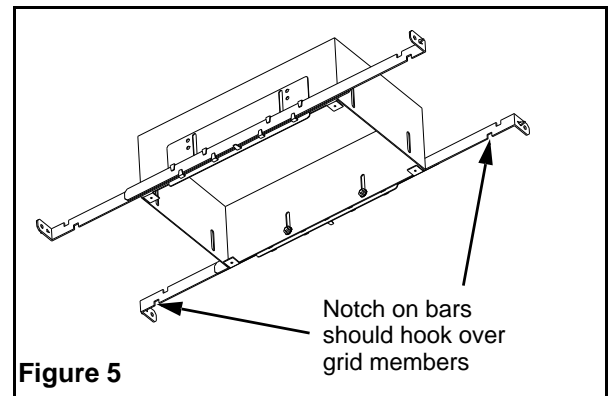

Figure 5
- d. Align the open surface of box where the finished surface of sheet rock will be and tighten nuts and studs (see fig. 5).
- c. Slide hanger bars through the tabs in the adjustment brackets and rest assembly on top of grid members. Notch on bars should hook over grid member (see fig. 5). Align the back box as required and fix location by cutting a hole in the ceiling panel and allowing back box to hang through the panel.
- d. Align the open surface of the box flush with the surface of the ceiling panels and tighten the nuts and studs (see fig. 5). Hang the fixture from the framing above ceiling grid with solid wires, (provided by others), if required by code.